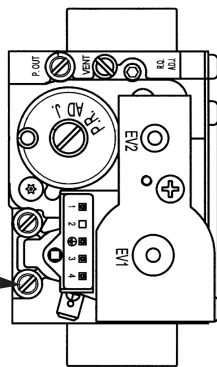

Fig. 66a
6. With the boiler operating in the maximum rate condition check that the operational (working) gas pressure at the inlet gas pressure test point (Fig. 66a) is in accordance with B.S. 6798 & B.S. 6891.